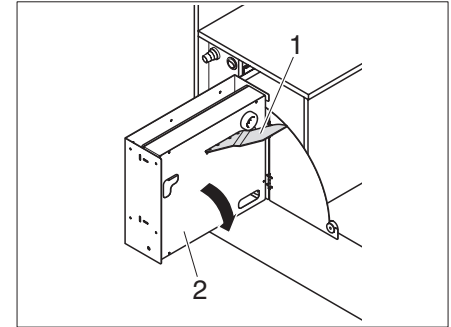

Fig. 76 Folding down the gas cooker
- ▶ Fold out the support plate (Fig. 76,1) and swivel the gas cooker (Fig. 76,2) downward.